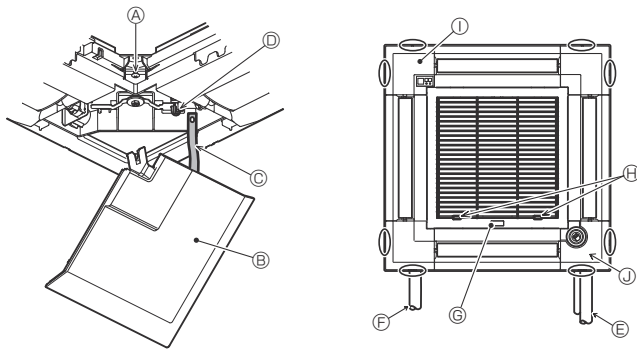

Fig. 6-13
6.6. Installing the intake grille (Fig. 6-13)